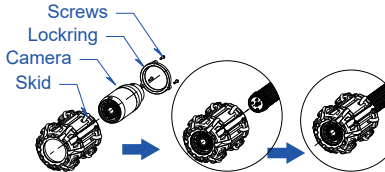

Figure 13. 72 Roller skid
1) Install 72 Roller Skid.(See Figure 13)